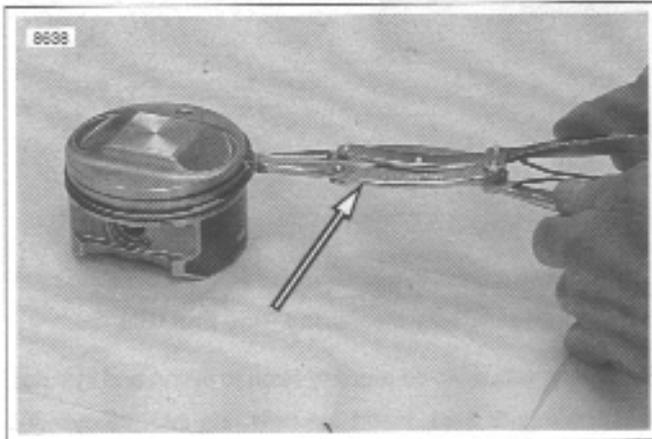

Figure 3-99. Installing Piston Rings Transmission Shaft Retaining Ring Pliers (Part No. J-5586)
2. See Figure 3-99. Apply engine oil to piston grooves. Use TRANSMISSION SHAFT RETAINING RING PLIERS (Part No. J-5586) to slip compression rings over piston into their respective grooves. Be extremely careful not to over expand, twist rings or damage piston surface when installing rings.